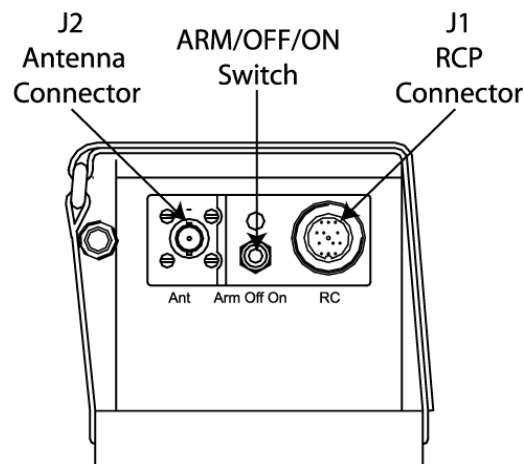

Figure 206: Installation, controls and connectors
- Connect the outside antenna to J2 BNC connector (Refer to Figure 206: Installation, controls and connectors) as shown Figure 2: ELT system description page 3.
- Connect the Remote Control Panel (or CS144) to J1 DIN12 connector (Refer to Figure 206: Installation, controls and connectors) as shown Figure 2: ELT system description page 3.
- Set the 3-position switch (Refer to Figure 206: Installation, controls and connectors) to ARM.
- Switch the ELT to OFF (Refer to Figure 206: Installation, controls and connectors).
- Disconnect the Remote Control Panel (or CS144) from the DIN12 connector (Refer to Figure 206: Installation, controls and connectors).
- Disconnect the outside antenna from the BNC connector (Refer to Figure 206: Installation, controls and connectors).